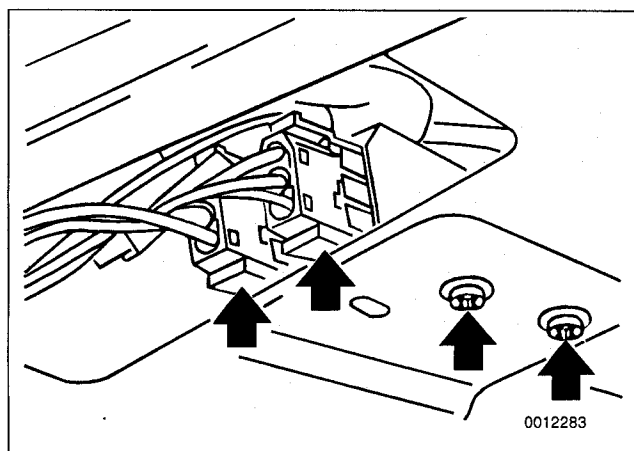

Fig. 18. Luggage compartment actuator wire connectors and attaching screws (**arrows**).
3. Unplug two wiring connectors from actuator. See Fig. 18.